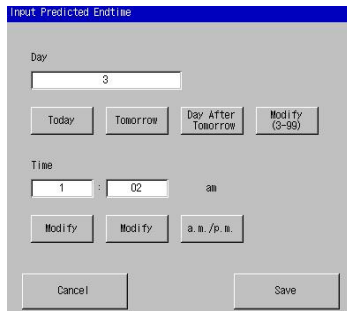

Figure 3-HHH
- The Predicted End Time Screen displays (Figure 3-HHH):